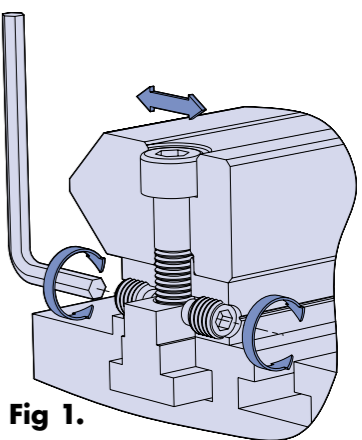

Fig 1.
- HLN back plates will be supplied with tapped holes and M8 dog point socket set screws to ISO 4028 for customers requiring the jacking screw alignment facility. Hole configuration 'B' denotes jacking screw positions corresponding with fixing hole positions, necessary when used in conjunction with the construction beams (see figure 1). Hole configuration 'A' denotes jacking screw positions mid way between fixing hole positions and is for general use where customers provide their own centre key section or use Hepco alignment dowel pins SDPA as shown in figure 2.